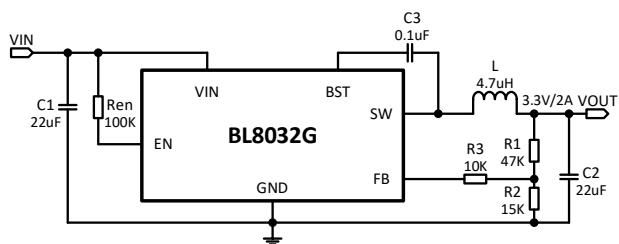

Figure 1
- 2) The resistance R3 in Figure 1 makes the loop more stable. If it isn't used, the resistance R1, R2 should be adjusted(See Figure2.). The value of R1 is recommended to be about 300KΩ.